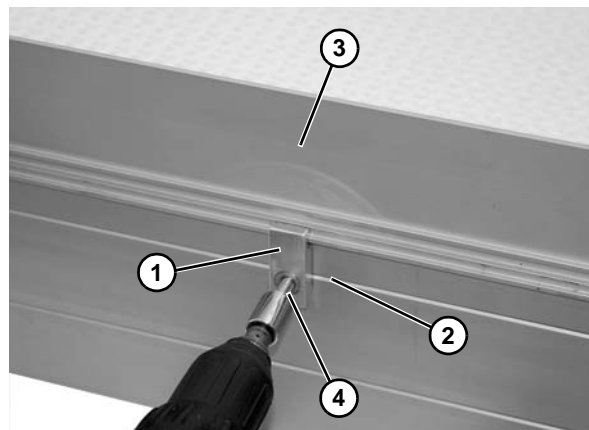

Figure 29
1. Lay out retaining clip (**Figure 29, item 1**) locations. The end clips should be no greater than 12" from end of the conveyor. Hole should line up with notch (**Figure 29, item 2**) in side rail.
2. Hold guide (**Figure 29, item 3**) and retaining clip (**Figure 29, item 1**) to conveyor side rail. Install self-drilling screws (**Figure 29, item 4**) following the "Proper Methods of Attaching Guiding to Side Rails (SmartSlot Frames Only)" on page 12 procedure.